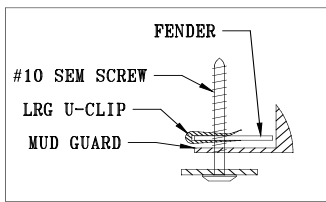

Figure 1
2. Install U-Clip at location D. U-Clip should clip over fender. (Figure 1)
2. Install U-Clip at location E. U-Clip should clip over fender. (Figure 1)